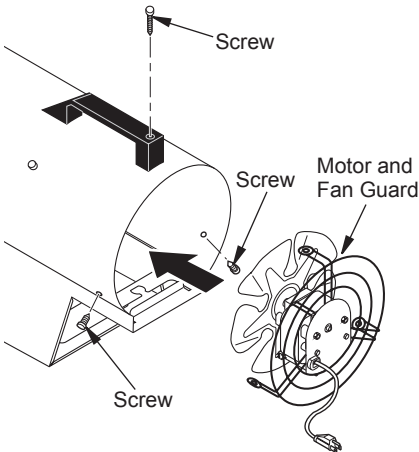

Figure 12 - Replacing Motor and Fan Guard Into Heater
11. Place motor and fan guard into rear of heater shell. Make sure power cord is properly located (see Figure 12).
12. Insert three screws through heater shell and into fan guard (see Figure 12). Tighten screws firmly.
8. Place motor and fan guard into rear of heater shell. Make sure power cord is properly located (see Figure 12).